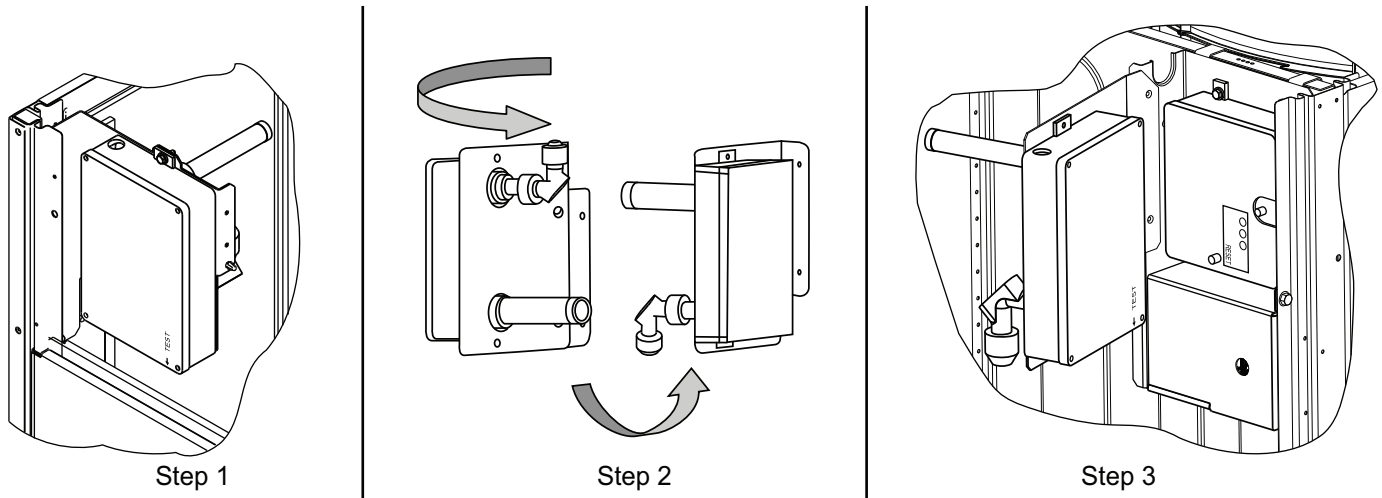

Fig. 72 — Completing Installation of Return Air Smoke Sensor
1. Unscrew the 2 screws holding the return air smoke detector assembly. See Fig. 72, Step 1. Save the screws.
2. Turn the assembly 90 degrees and then rotate end to end. Make sure that the elbow fitting is pointing down. See Fig. 72, Step 2.
3. Screw the sensor and detector plate into its operating position using screws from Step 1. See Fig. 72, Step 3.